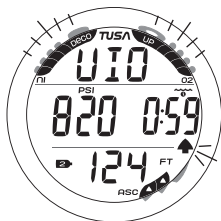

Fig. 87 - VGM DIVE MAIN
**VGM Main**, information includes (Fig. 87) -